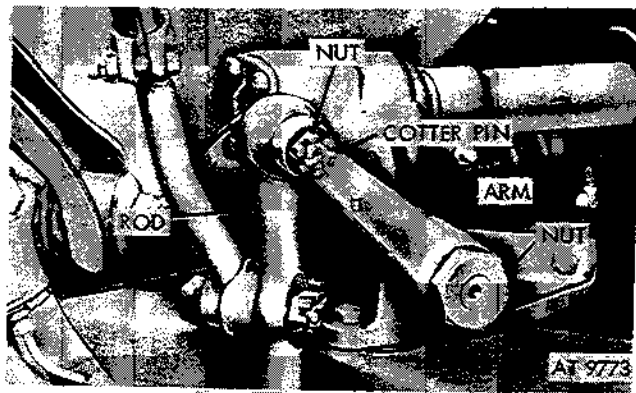

Figure 2-350. Disconnect Pitman arm from idler arm rod and sector shaft.
(1) Remove cotter pin and nut securing idler arm rod to Pitman arm (fig. 2-350).
(2) Remove nut and lockwasher securing Pitman arm to sector shaft (fig. 2-350).
(1) Remove cotter pin and nut securing idler arm rod to Pitman arm (fig. 2-350). Remove idler arm rod ball stud from Pitman arm with suitable puller.